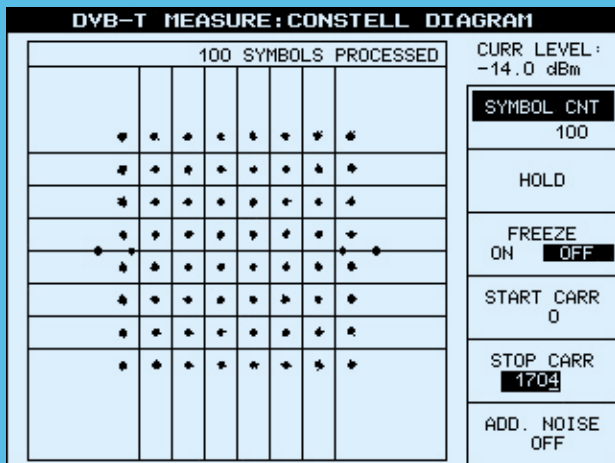

Fig. 2: Constellation diagram
- ◆ I/Q constellation diagrams (Fig. 2): the number of symbols to be displayed is user-selectable, range: 1 to 999 999 symbols